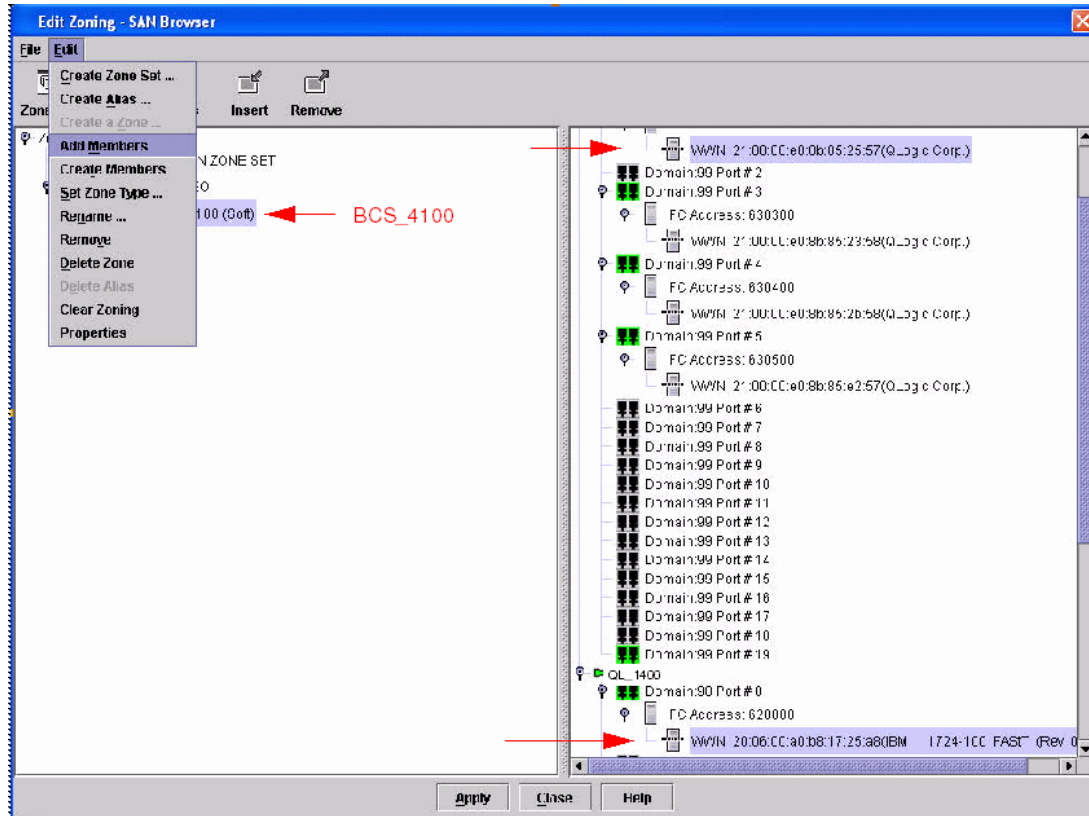

Figure 7-56 Edit Zoning - SAN Browser window
15. In the Edit Zoning - SAN Browser window (Figure 7-56), highlight the zone you created. Select the members you want to be included in the zone. You may use the Control key to select more than one member. Select **Edit** → **Add Members**.